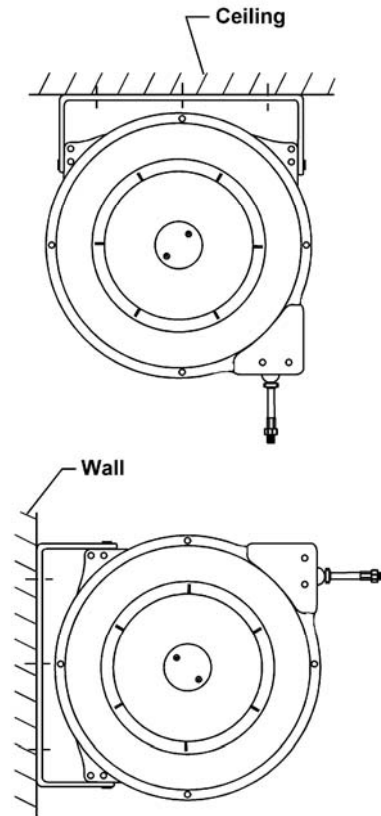

Figure 1
1. The reel base has three 13/32" (10.5mm) drilled holes for mounting on a suitable flat surface. Figure 1 shows the reel mounted to wall or ceiling.